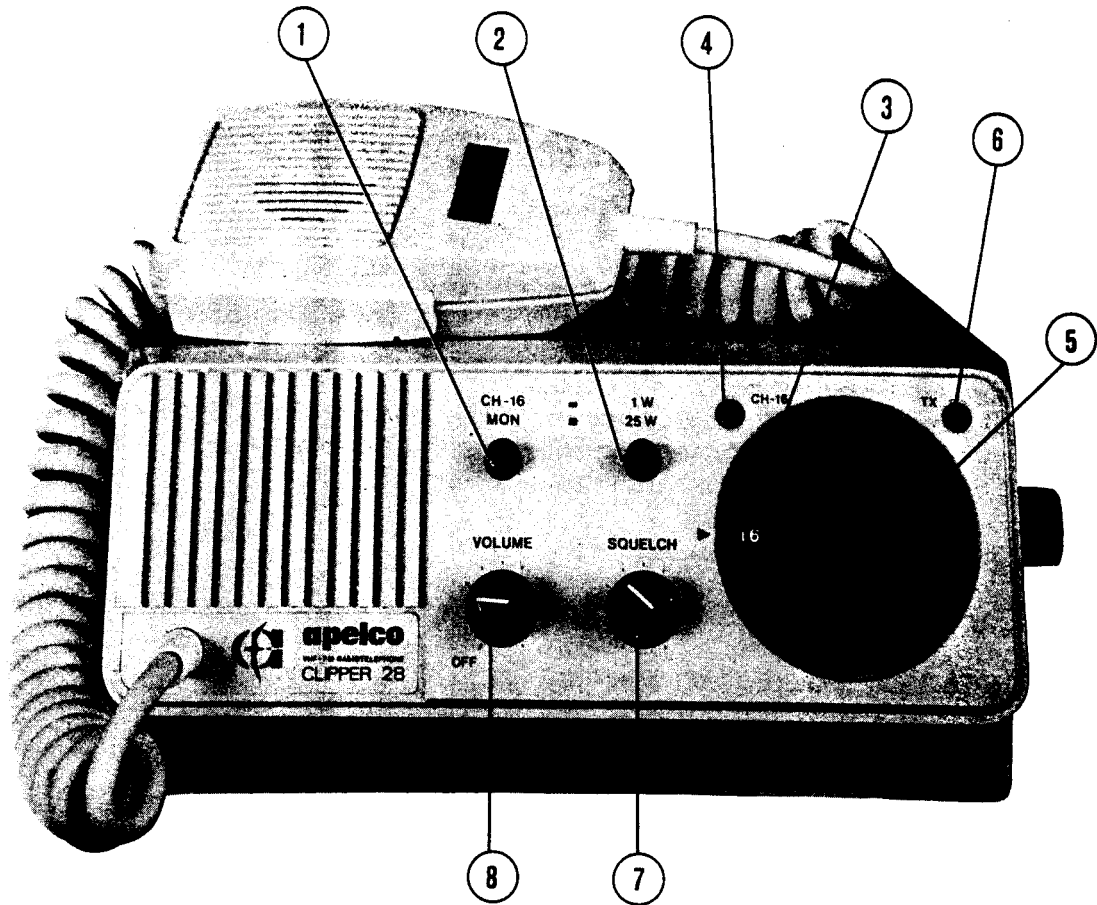

Figure 3-1 CLIPPER 28 Controls and Indicators
Refer to Figure 3-1 for familiarization with the following controls and indicators.
2. Turn OFF/VOLUME control (8, Fig. 3-1) clockwise to turn radio on. Adjust OFF/VOLUME control in a clockwise direction for a comfortable listening level.
3. Rotate SQUELCH control (7, Fig. 3-1) until speaker noise just ceases.
4. Set transmitter power switch 1W/25W (2, Fig. 3-1) to either the 1W or 25W position depending on the distance the message is to be transmitted and transmitting conditions.